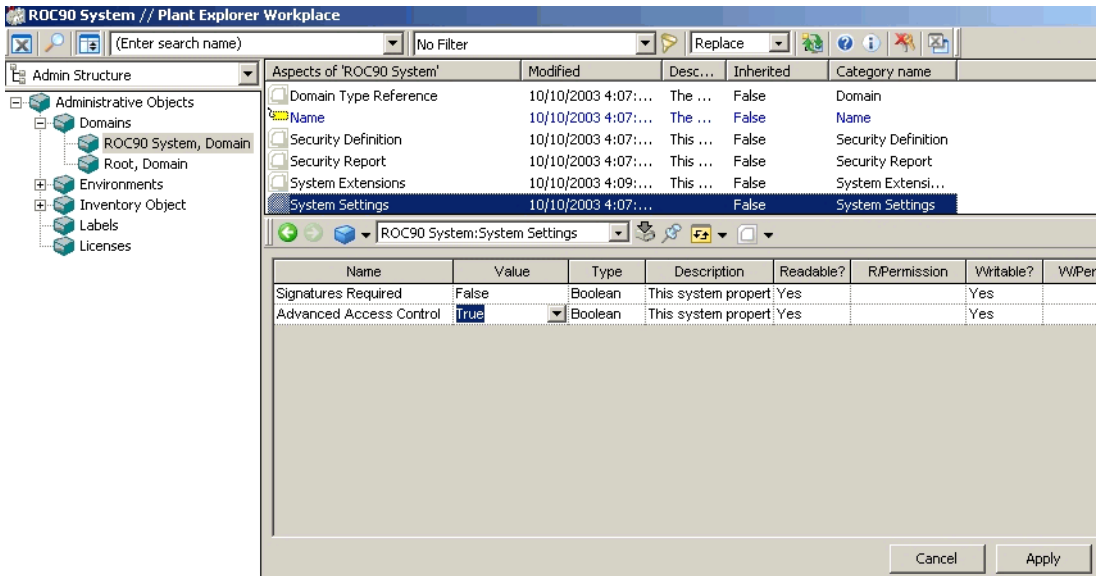

Figure 415. Setting Advanced Access Control to True
1. Set the Advanced Access Control to **True**. This is done via the System Settings aspect for the Domain object in the Admin structure, Figure 415.